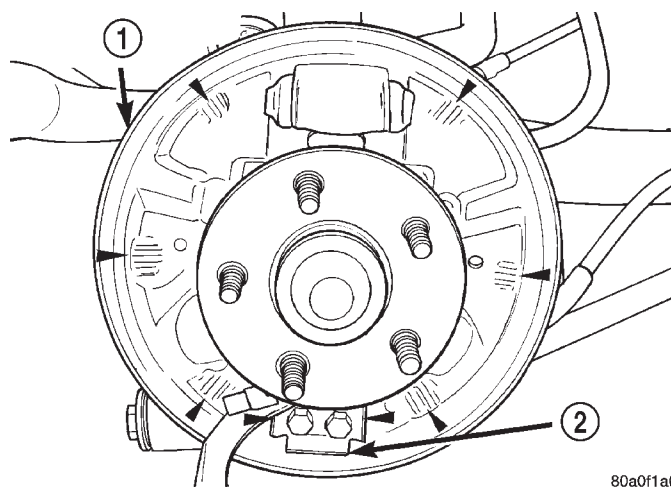

Fig. 112 Brake Shoe Contact Areas on Support Plate
(1) Lubricate the six brake shoe contact areas on the brake support plate and the brake shoe contact points on the brake shoe anchor (Fig. 112) using Mopar Multi-Purpose Lubricant or equivalent.